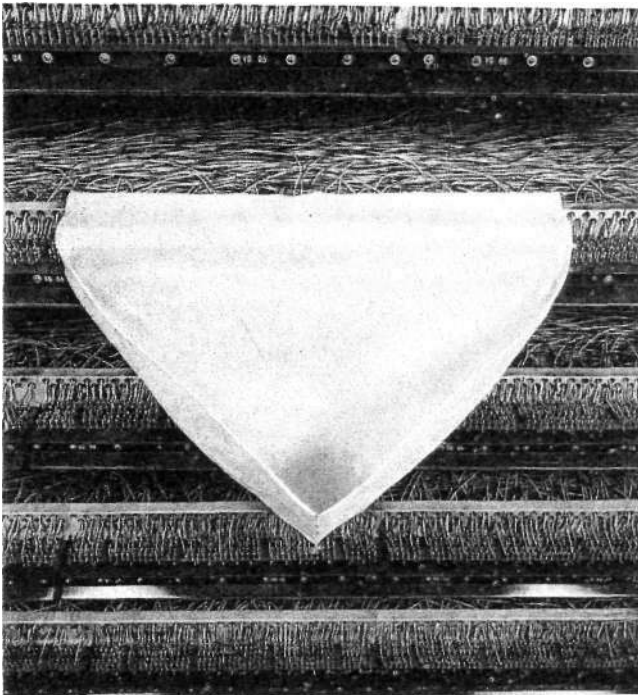

Fig. 1 — 38-Y-3996 Distributing Frame Bag
1.02 The 38-Y-3996 distributing frame bag (Fig. 1) is made of fiberglass cloth which is moistureproof and fireproof.